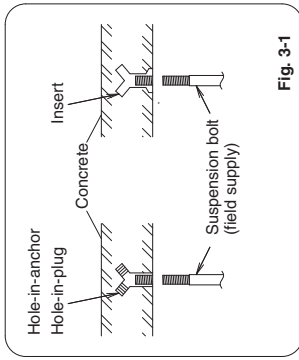

Fig. 3-1
- (1) When placing the unit inside the ceiling, determine the pitch of the suspension bolts referring to the dimensional data given previously. Tubing must be laid and connected inside the ceiling when suspending the unit. If the ceiling is already constructed, lay the tubing into position for connection to the unit before placing the unit inside the ceiling.
- (2) Screw in the suspension bolts allowing them to protrude from the ceiling as shown in Fig. 3-1. (Cut the ceiling material, if necessary.)